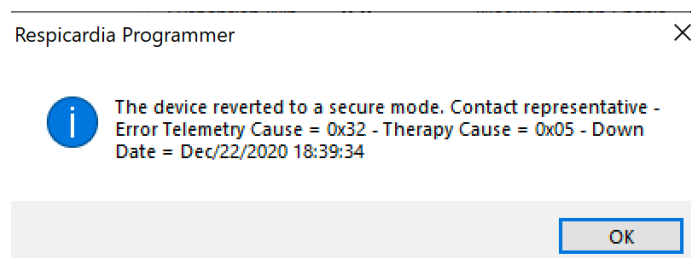
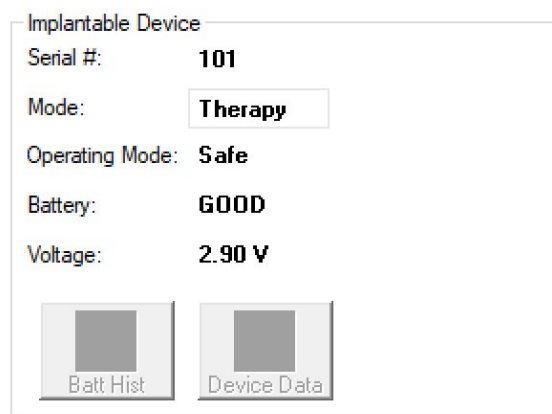

Figure 2 Example of Programmer alert when device has entered in Safe mode
Figure 3 Summary Tab Operating Mode display when Implantable Device is in Safe Mode
- The **remedē** System may enter into Safe Mode in the presence of a very large magnetic field such as an MRI machine. Upon IPG interrogation, the **remedē** System Programmer will display an alert indicating the device has reverted to a secure mode (see example in **Figure 2**). The Implantable Device information on Programmer Summary tab will also list the Operating Mode as Safe as shown in **Figure 3** below.